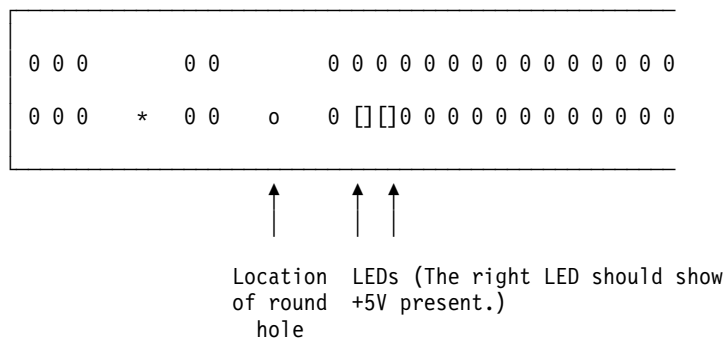

Figure 19. Round Hole Location On Back of Supply
Is the left LED lite on? (See Figure 19).
- 3) Insert the tool into this round hole only to push the button within the supply (see Figure 19 on page 584). Hold the button in. (The second LED indicates +5V present.)